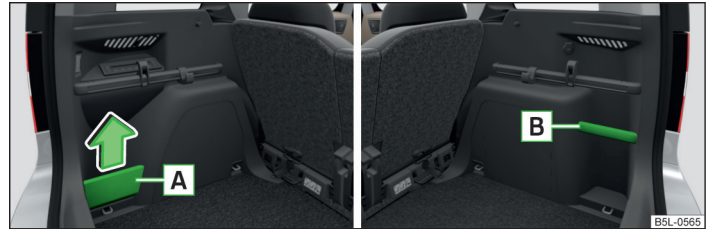

Fig. 84 Storage compartment on the left / right
The cover for the storage compartment **A** » Fig. 84 can be removed, thus enlarging the boot.
- The removable storage compartment [A] » Fig. 84 on the left side is suitable for stowing small objects weighing up to 1.5 kg.